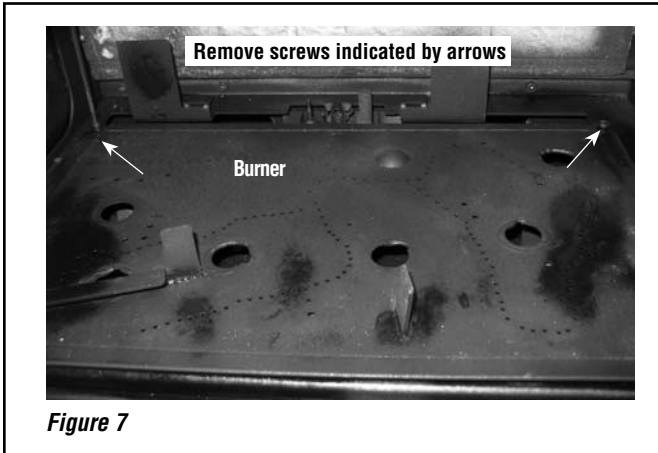

Figure 7
Step 7. Using a 5/32" allen wrench, remove the two 10-24 screws at the back corners of burner (see *Figure 7*).